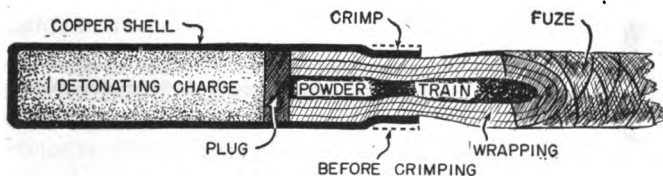

FIGURE 82.—Nonelectric cap.
■ 49. **FIRING MATERIALS.**—*a.* *Caps* (figs. 82 and 83).—Caps are placed in charges to set them off. Standard commercial caps will not detonate TNT or ammonium nitrate cratering charge; therefore the army has adopted a special cap. Caps are classified as electric or nonelectric, depending on whether they are set off by electricity or fuze. Both types must be